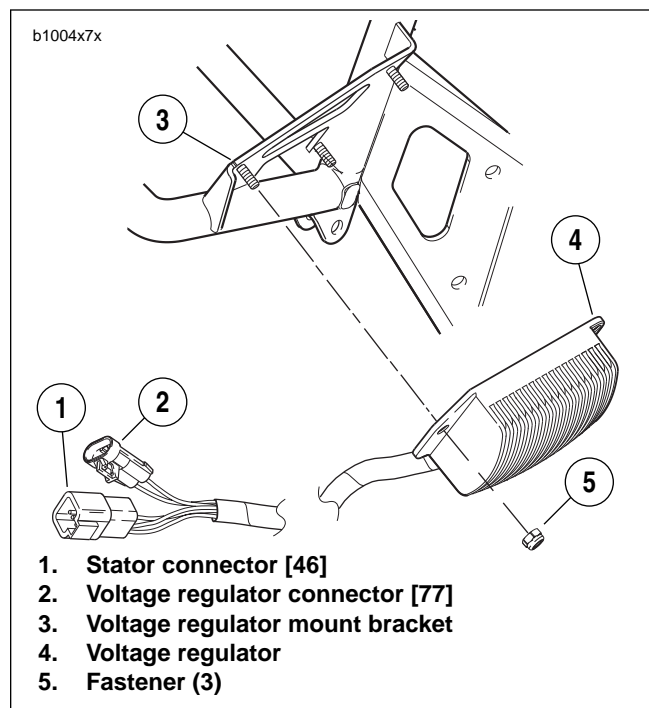

Figure 7-37. Voltage Regulator
3. See Figure 7-37. Disconnect stator connector [46] (1) and voltage regulator connector [77] (2) located under sprocket cover. See 7.26 SPROCKET COVER WIRING.
4. Remove fasteners (5) and voltage regulator (4) from bracket (3).
1. See Figure 7-37. Attach **new** voltage regulator (4) to bracket (3). Tighten **new** fasteners (5) to 36-60 **in-lbs** (4.1-6.8 Nm).
2. Connect stator connector [46] (1) and voltage regulator connector [77] (2) located under sprocket cover. See 7.26 SPROCKET COVER WIRING.